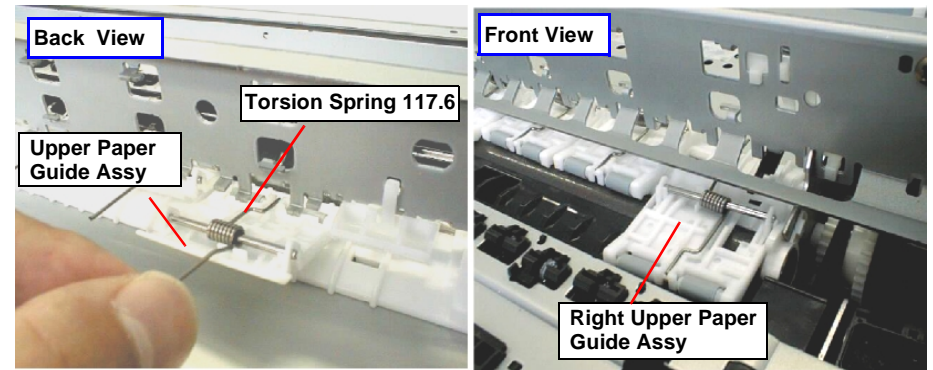

Figure 4-49. Removing the Upper Paper Guide Assembly
- 7) Remove five Upper Paper Guide Assemblies and one Right Upper Paper Guide Assembly to the following directions, releasing their Torsion Springs 117.6 from the hooks on the Top Frame. Refer to Figure 4-49.
- 3) Remove the Right Upper Paper Guide to forward releasing the Torsion Spring 117.6. Refer to Figure 4-49.